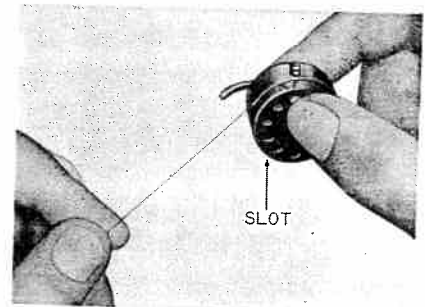
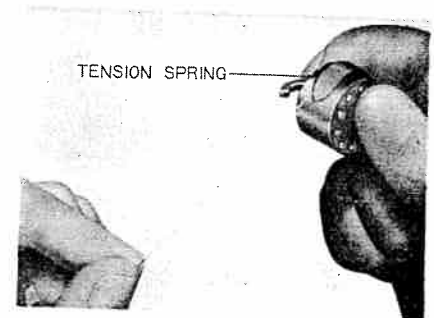

Fig. 9
Fig. 10
Step 2 Insert bobbin into bobbin case, pull the thread into the slot of the bobbin case as shown in Fig. 9, and draw it under tension spring and into the fork-shaped opening of the spring as shown in Fig. 10.